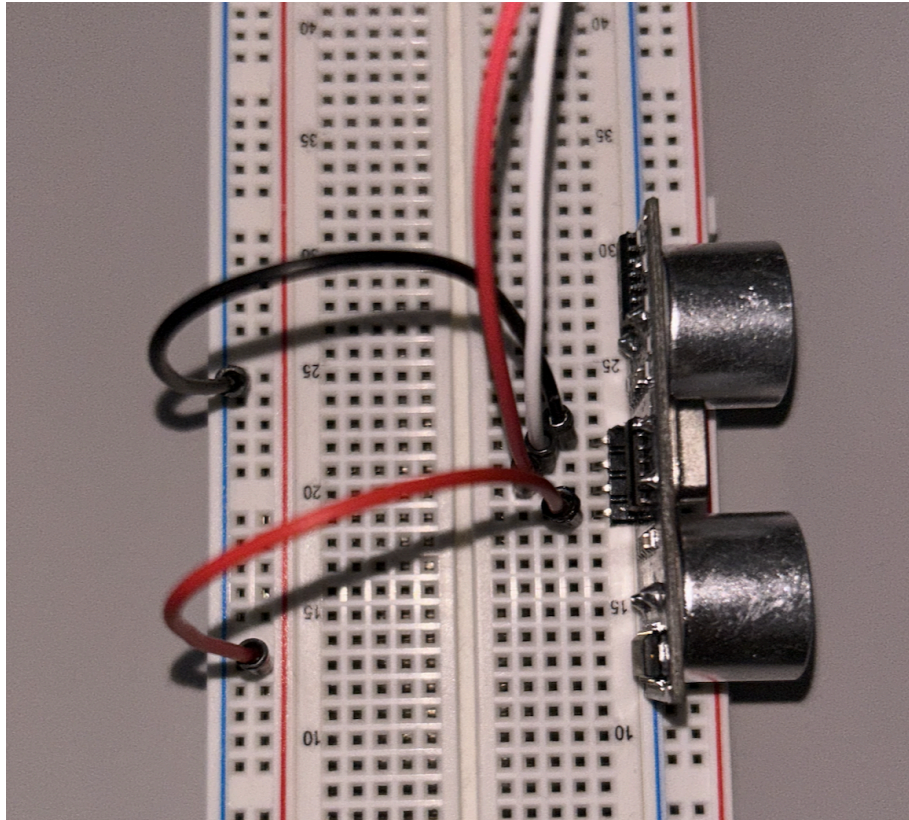

Figure 13: Proper Placement and Connection of Ultrasonic Sensor
**Note:** Connect wires behind the emitter and receiver as in Figure 13.